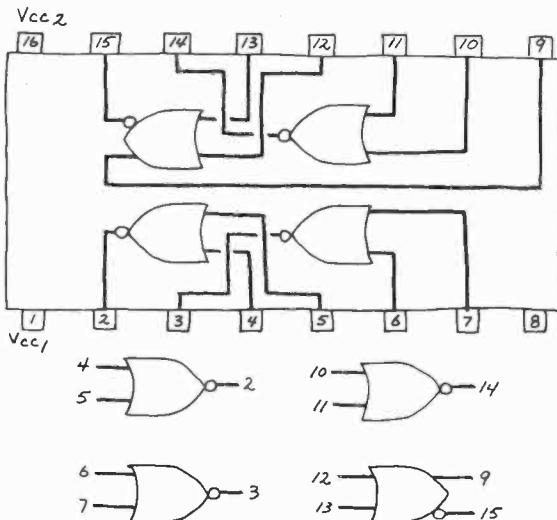

Fig. 4. Pin layout and internal schematic diagrams of the 10102 ECL quad NOR gate.
**Experimenting with an ECL Quad NOR Gate.** A good way to learn about ECL firsthand is to experiment with the 10102 quad 2-input NOR gate. The pin outline for the DIP version of this gate is shown in Fig. 4. As in TTL gate packages, pins 8 and 16 are reserved as power-supply terminals. Pin 1 is also used as a power-supply terminal.